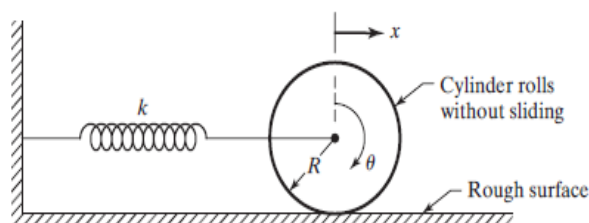

Figure. 1
2. Write the equation motion and find the natural frequency of the system shown in figure.1